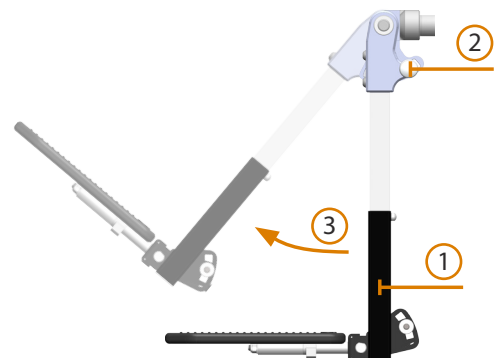

Figure 30. Angle adjustment
- Grip the footrest tube near the bottom (1 in Figure 30).
- Pull the knob (2) and move the leg rest to the desired position (3).